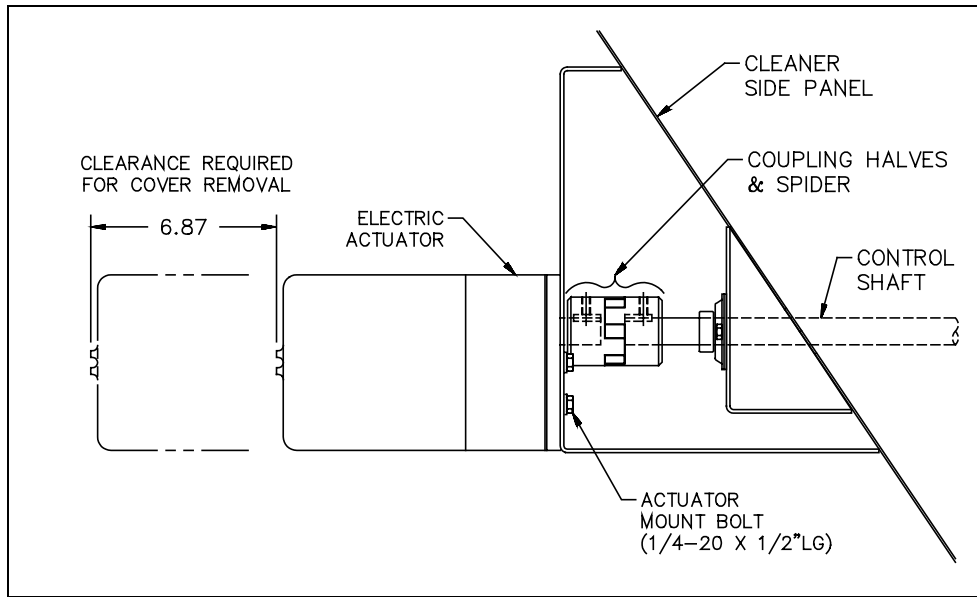

Figure 3-10, Rotary Actuator Installation, Models PC-16000, PC-22000, And PC-30000
3.3.7.2 Actuator Installation, PC-16000 Through PC30000 (See Figure 3-10)